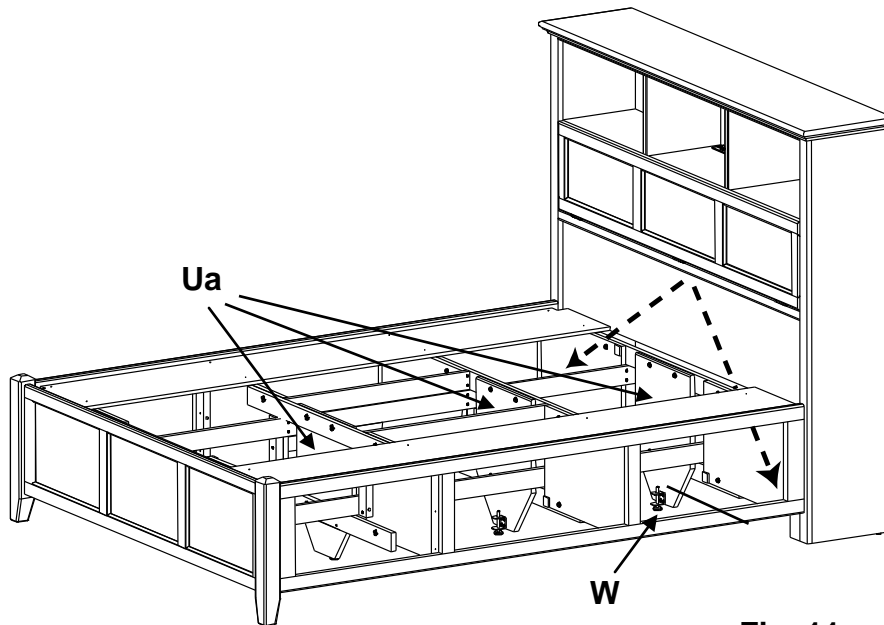

Fig. 11
11. Place your bed in its final position. Adjust all three Glides (W) found at the bottoms of the Assembled Feet (Ua) so that the Glides just touch the floor. See Figure 11. To level the headboard, stand in the open area in between the two attached deckboards and reach through the front of the platform. See Figure 11. Using a slotted screwdriver, rotate the Large Adjustable Glide (YA) clockwise until it bears weight. Repeat for the opposite side. See Figures 11a and 11b.